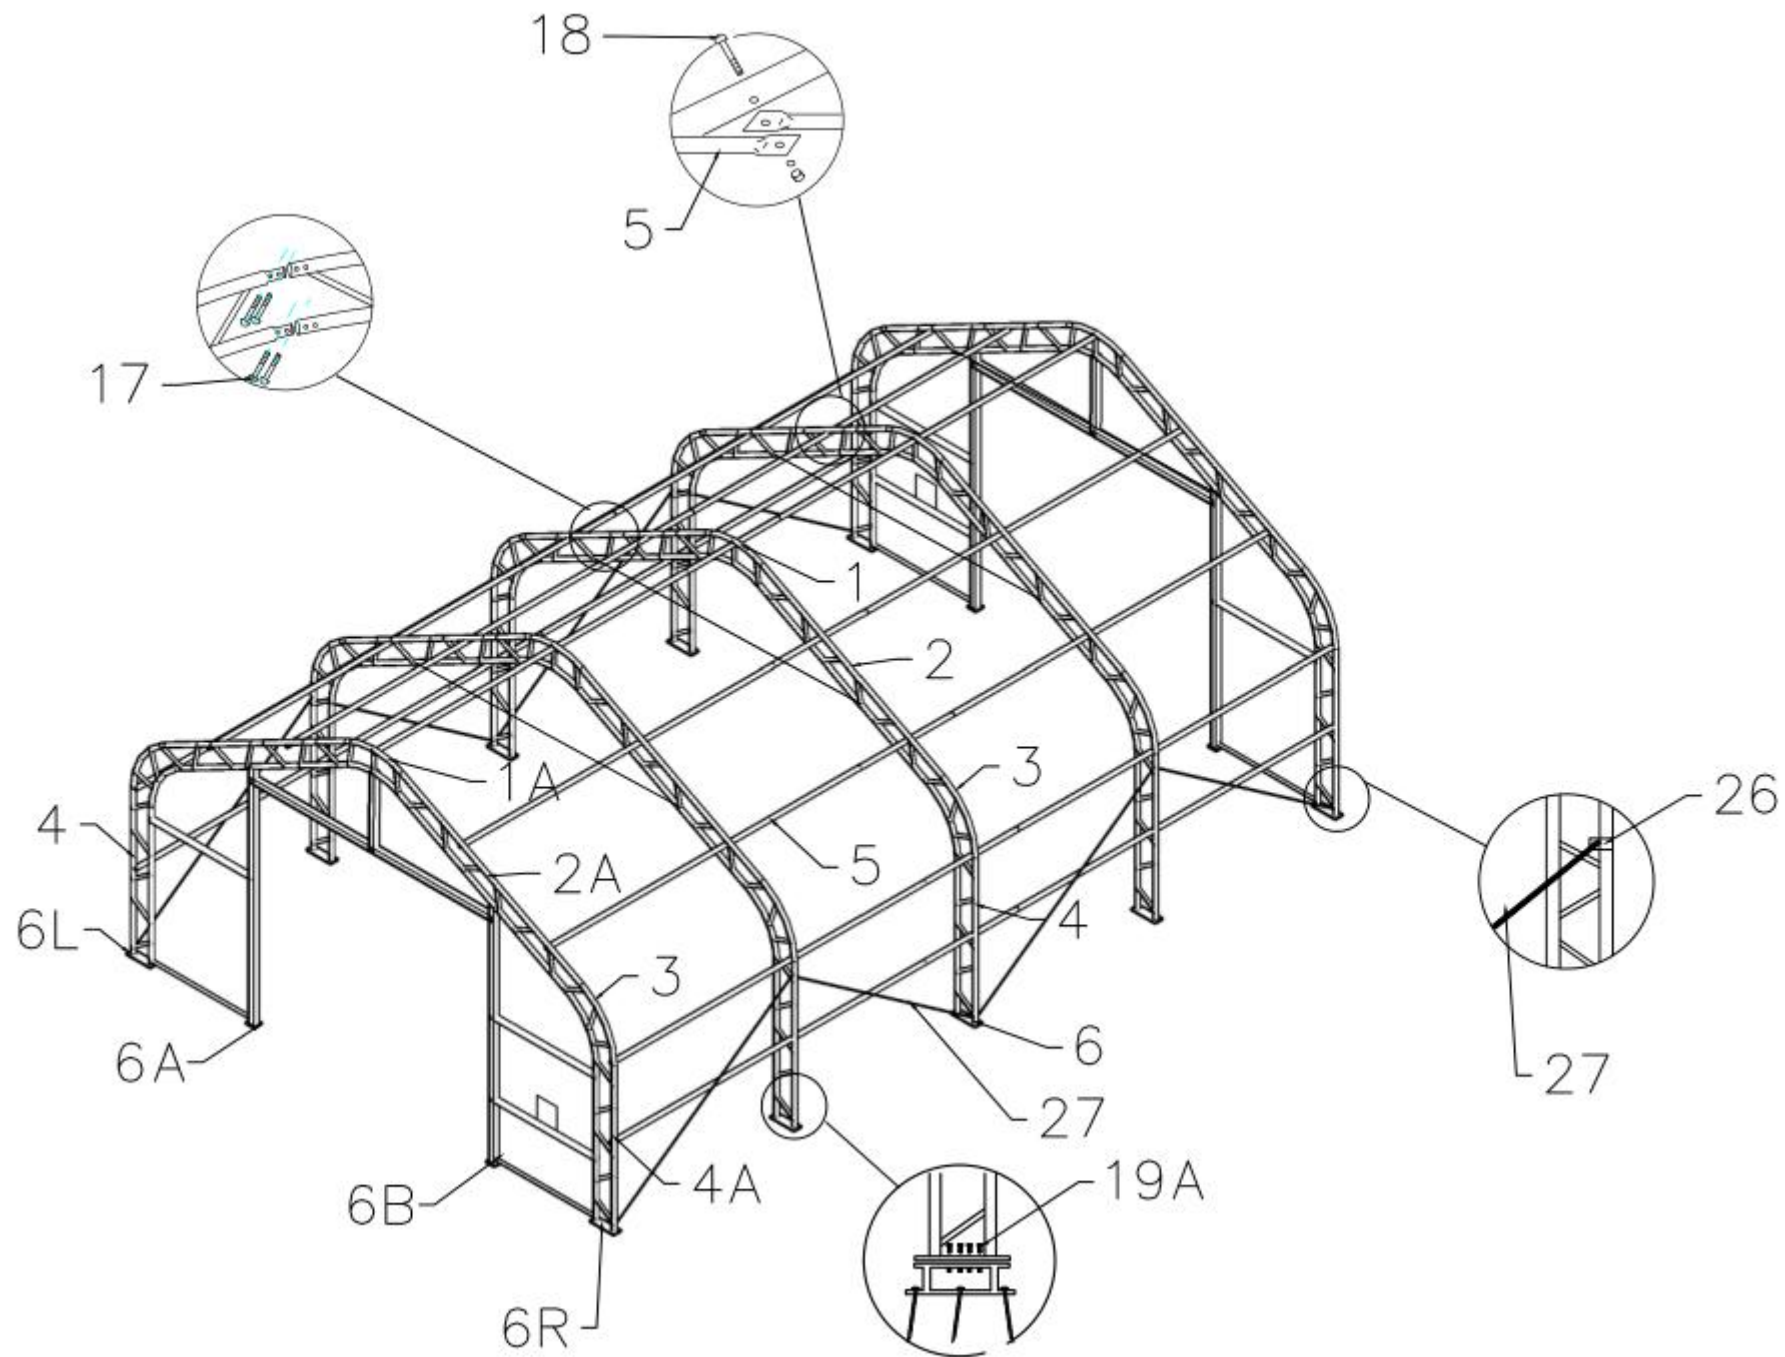
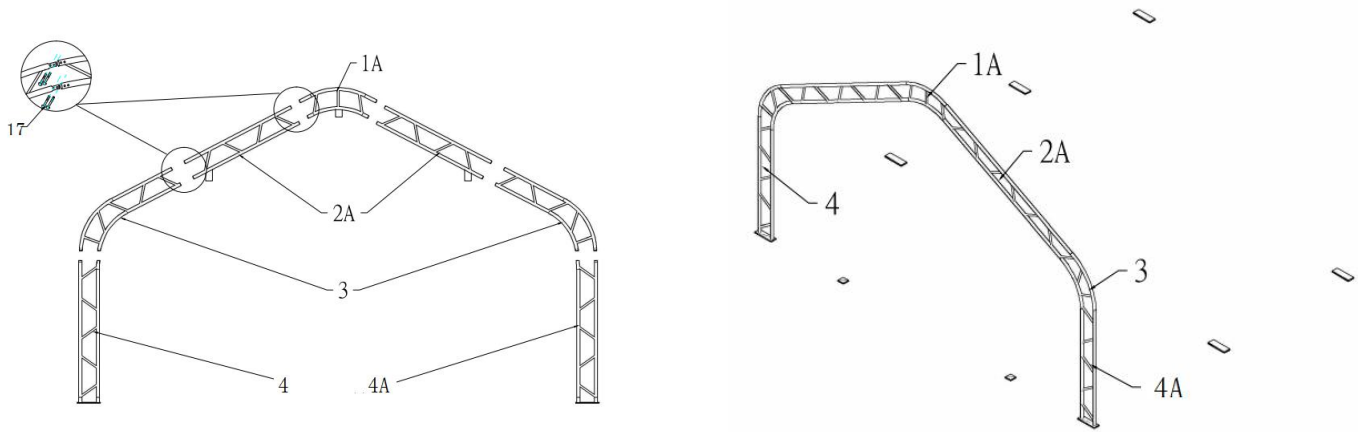
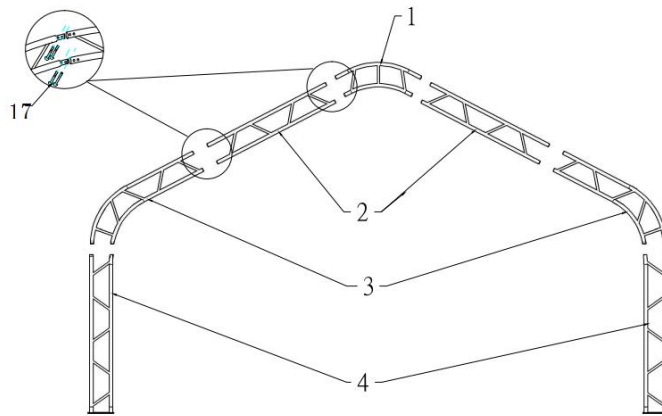

Figure 1: Frame Sketch
Figure 3
Figure 4
1. Figure 4 shows to connect the Roof bent tube for front and back door (No.1A), Sidewall bent tube for front and back door (No.2A), Shoulder bent tube (No.3), Standing leg (No.4) and Standing leg for front door and back door (No.4A) with Carriage bolt M8*60 (No.17), then put the arch into tube of the Base plate by using the bolt 12*30 (No.19A) by hoist (see Figure 3)
2. Figure 4 shows to connect the Roof bent tube (No.1), Sidewall bent tube (No.2), Shoulder bent tube (No.3), and Standing leg (No.4) with Carriage bolt M8*60 (No.17), then put the arch into tube of the Base plate by using the bolt 12*30 (No.19A) by hoist, and assemble every group arch by turns (see Figure 1)